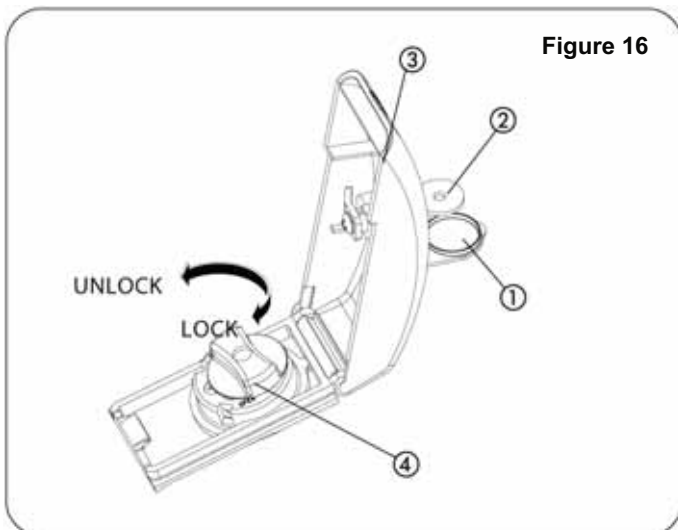

Figure 16
- Lift the protective plug (Fig. 16, Ref. 1) and insert the supplied key (Fig. 16, Ref. 2).
- Turn the key 90° clockwise to open the cover.
- Lift the cover (Fig. 16, Ref.3).
- Turn the release knob counter-clockwise approximately two complete turns (Fig. 16, Ref. 4).
- To re-lock the operator, turn the release knob clockwise until it stops (Fig. 16, Ref. 4).
- Close the cover and turn the key 90° counter-clockwise (Fig. 16, Ref. 2).
- Finally, remove the key and close the protective plug (Fig. 16, Ref. 1).